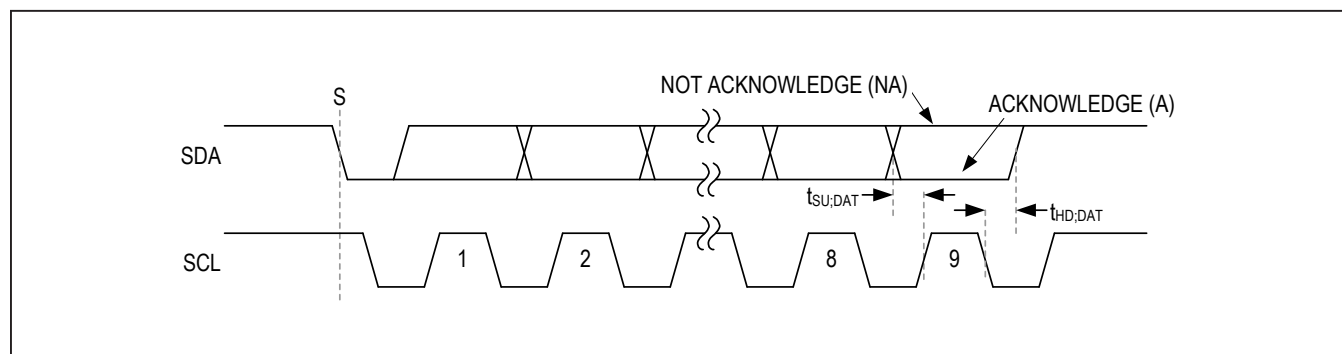

Figure 25. Acknowledge Bit
Both the I²C bus master and the MAX77650/MAX77651 (slave) generate acknowledge bits when receiving data. The acknowledge bit is the last bit of each nine bit data packet. To generate an acknowledge (A), the receiving device must pull SDA low before the rising edge of the acknowledge-related clock pulse (ninth pulse) and keep it low during the high period of the clock pulse. See Figure 25. To generate a not-acknowledge (nA), the receiving device allows SDA to be pulled high before the rising edge of the acknowledge-related clock pulse and leaves it high during the high period of the clock pulse.